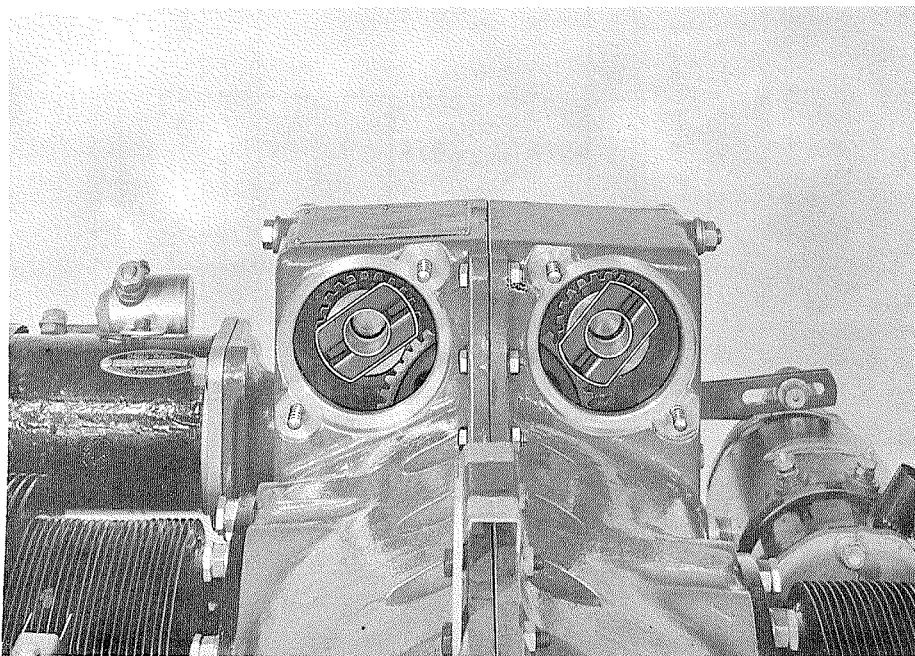

Figure 8-11. Position of Magneto Couplings.
c. Turn the crankshaft to the No. 1 cylinder advance firing angle as described in the following paragraph. Lubricate each magneto drive gear shaft and teeth (20) and insert into bushings (15). Observe the shaft ends from the rear as they are carefully pushed through the adapter oil seals to make sure the seal lips are not reversed or damaged. Mesh the magneto drive gears to the idler gear to the approximate position shown in figure 8-11. These positions will vary slightly due to differences in magnetos and gears.